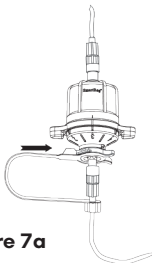

Figure 7a
4. To avoid locking of the flow rate in error and to better secure the selected flow rate place the Clamp of the Lock-Guard between the red locking ring and the white adjusting Ring (See Figure 7a).